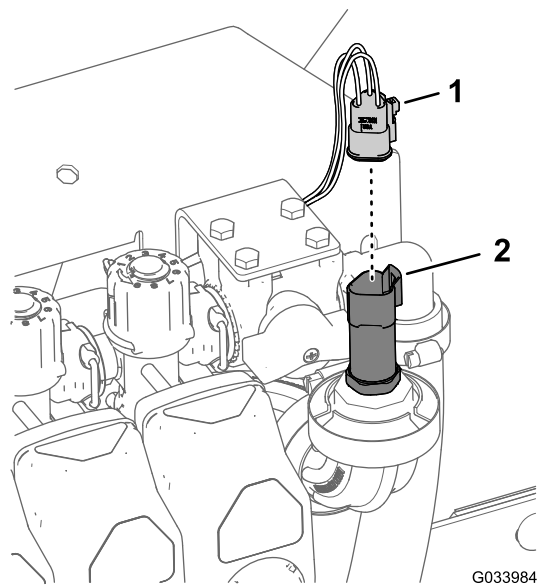

Figure 9
1. Disconnect the 3-socket connector for the pressure transducer (Figure 9).